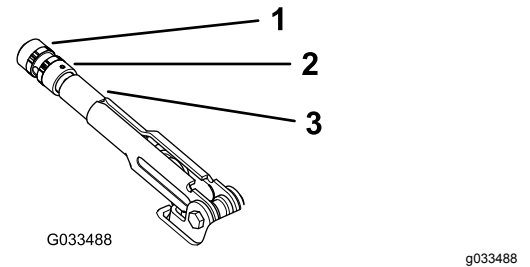

Figure 59
3. Rotate the knob (Figure 59) until a force of 20 to 22 kg (45 to 50 lb) is required to actuate the lever.
4. Tighten the set screw when finished (Figure 59).